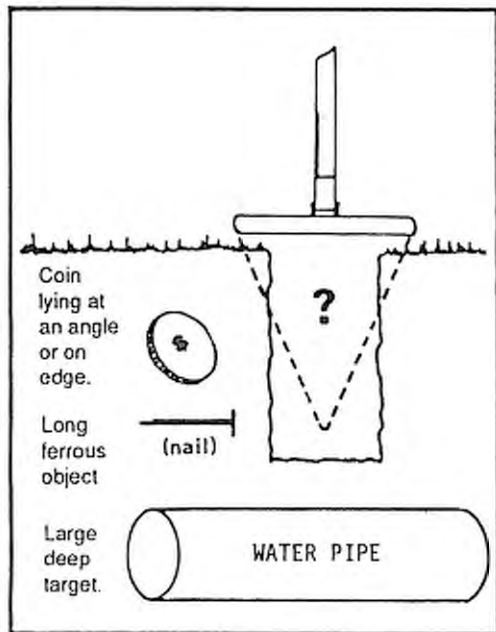

Figure 8. Targets that aren't there.
10. **OTHER TARGETS THAT AREN'T THERE:** Good lock-on, repeatable signals but nothing there (see Figure 8).
- b) A coin lying in the ground at an angle (as shown in Figure 8) may give a single target response but may pinpoint several inches away from its true location. Check around the inside edges of your hole. If you still don't find it, enlarge the hole by a couple of inches.